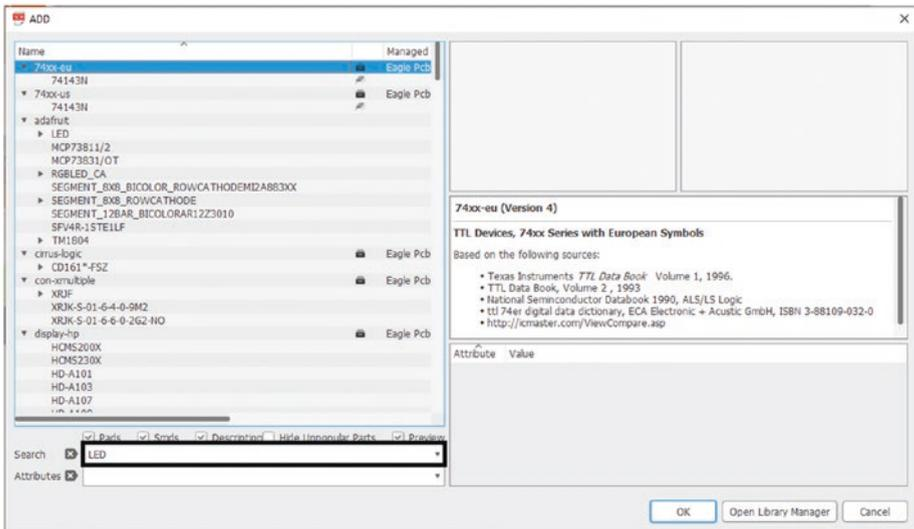

Figure 5-24. Search for LED
11. In the search bar, type in “LED” and press enter. See Figure 5-24.